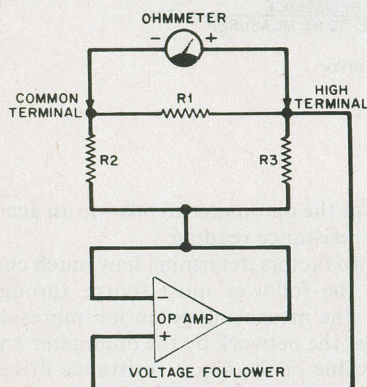

Fig. 3. Here, the voltage follower prevents shunting components from influencing the ohmmeter reading.
**The Voltage Follower** shown in Fig. 3 can electrically isolate the resistance to be measured from the shunting circuit resistances in the following manner. This stage has unity voltage gain and sets up at its output terminal the same voltage that appears at its noninverting input. When the ohmmeter is connected to the delta network as shown, a positive voltage appears at the HIGH TERMINAL and the follower's noninverting input. The follower then sources current into  $R2$  so that the node  $R2R3$  is at the same voltage as the HIGH TERMINAL. Therefore, no voltage drop appears across  $R3$ , and effectively no resistance is in parallel with  $R1$ , the component whose resistance is to be measured. This isolation